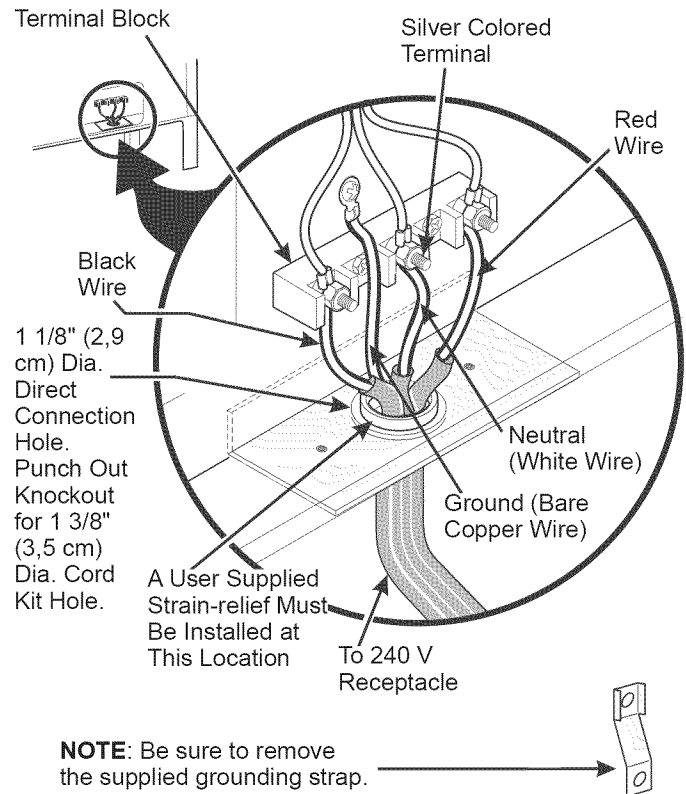

Figure 4
Where local codes does NOT permit connection of the frame grounding conductor to the neutral wire of the copper power supply cord (see Figure 4):
3. Using the nuts supplied with the literature package, connect the ground wire (green) of the copper power supply cord to the frame of the appliance with the ground screw, using the hole in the frame where the ground strap was removed (see Figure 4).
If the appliance is connected directly to the circuit breaker, fuse box or junction box, use flexible, armored or nonmetallic sheathed copper cable (with grounding wire). Supply a U.L. listed strain-relief at each end of the cable. At the appliance end, the cable goes through the Direct Connection Hole (see Figure 4) on the Cord Mounting Plate. Wire sizes (**copper wire only**) and connections must conform to the rating of the appliance.